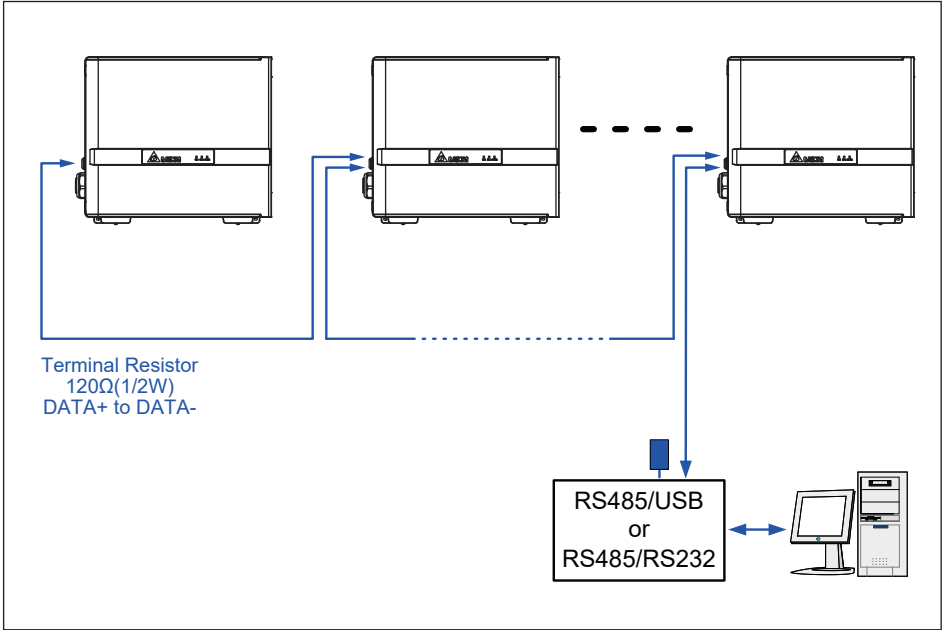

Figure 3-22: Multiinverter connection illustration
A 120ohm bus termination resistor and associated control switch are located on the communication board (**Figure 3-22**). **Table 3-3** shows the switch function. Different RS-485 connection scenarios require different set up for the 120ohm bus termination resistor.
- When several inverters are cascaded (i.e., "daisy-chained") only the last inverter in the chain must have its bus termination resistor switched ON (**Figure 3-22**).